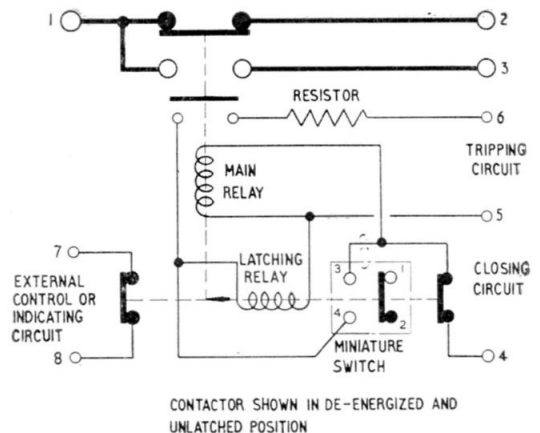

Fig. 4. Circuit diagram
7. A pair of auxiliary contacts, shown in fig. 4, is operated by the latching relay armature, and closes as the contactor trips. These contacts are used for external control or indicating purposes. A further pair of contacts in each relay circuit is operated by the armature of the other relay. The function of these contacts is to cut the relay coils out of circuit as soon as they have performed their allotted duty.